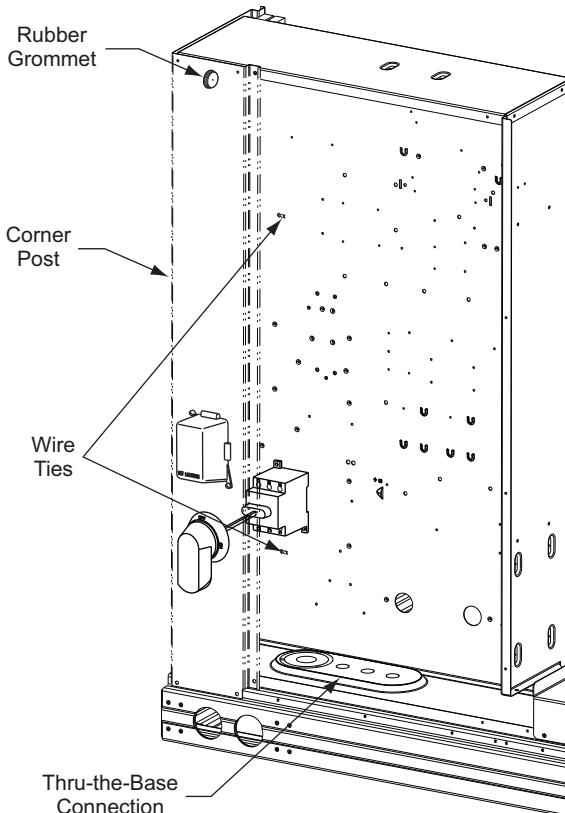

Fig. 53 — Wire Ties for Low Voltage Wiring
All low-voltage wiring should be routed through the provided wire ties (see Fig. 53) down the left side of the control box or secured to the unit control box with an electrical conduit in order to provide UL-required clearance between high-voltage and low voltage wiring.
Correctly rated low voltage wire can be routed through the rubber grommet located on the corner post adjacent to the control box access panel (see Fig. 53). Route wire through the grommet and then route the wire behind the corner post utilizing the factory provided
2. Feed wires through the wire ties down the left side of the control box (see Fig. 53) to the 24-v barrier located on the left side of the control box. This provides the UL-required clearance between high-voltage and low-voltage wiring.